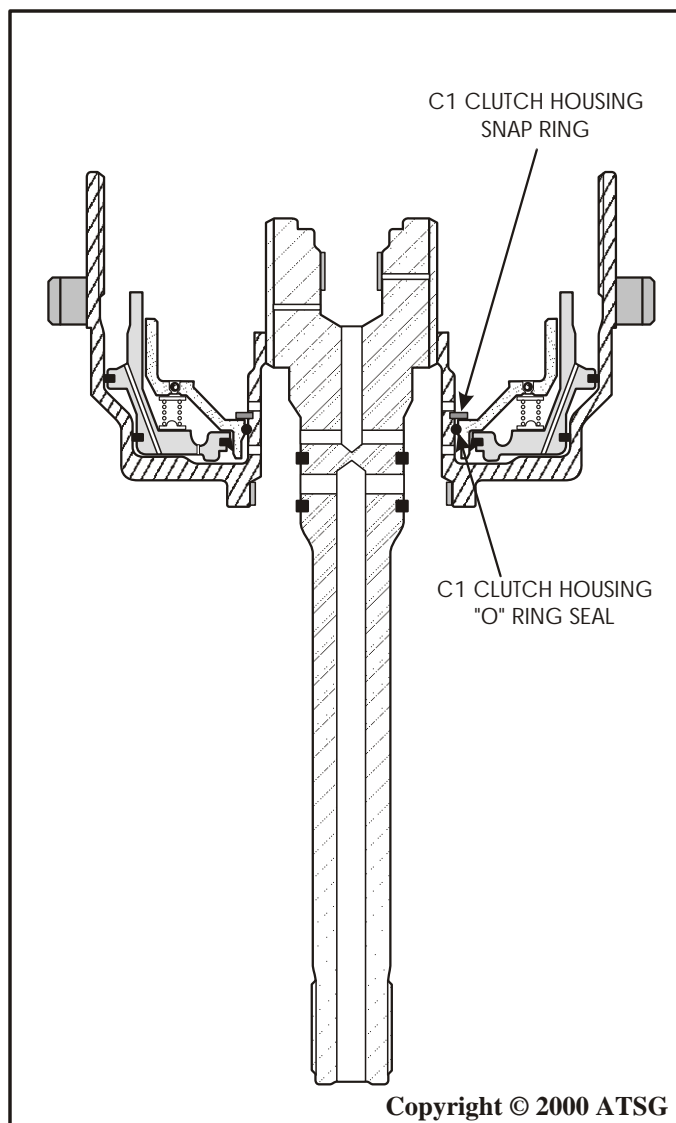

Figure 104
12. Install the C1 clutch housing "O" ring seal into the **lower** groove in the C1/C2 clutch housing, as shown in the cut-away in Figure 104.
14. Compress the C1 clutch housing against the return spring assembly and install the C1 clutch housing snap ring into the **upper** groove in the C1/C2 clutch housing, as shown in cut-away in Figure 104.